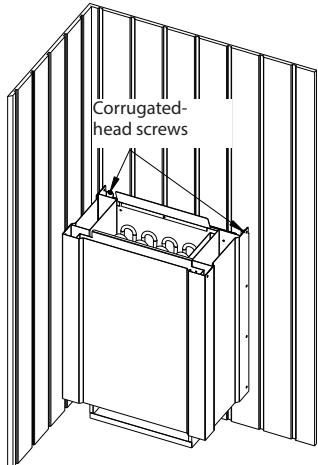

**Fig. 4**
3. Make the cable connections according to the wiring diagram. The corresponding wiring diagram is given in this manual (fig. 4).